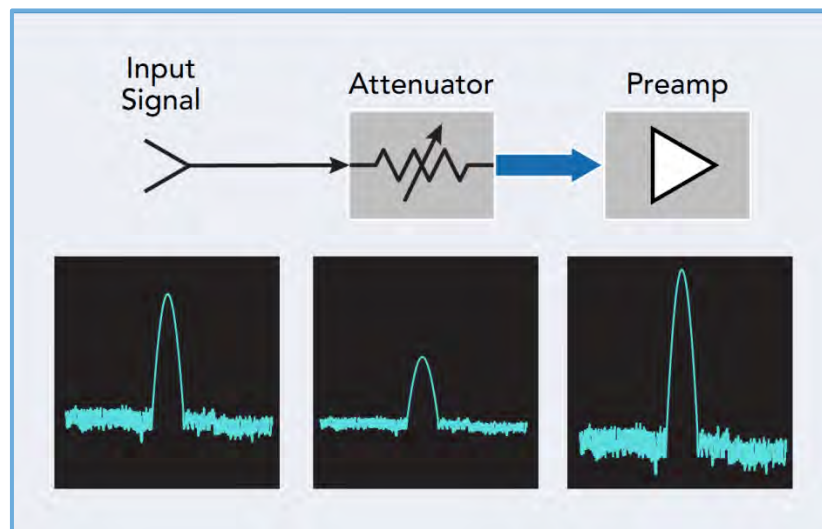

Figure 3-6: The effect of an attenuator and a preamplifier on an input signal.
The preamplifier (PA) is a low noise amplifier that increases the input signal amplitude (**Figure 3-6**). It can increase the signal-to-noise ratio and helps increase the measurement sensitivity to low power elements in the input signal. It is also usually controlled by the spectrum analyzer.